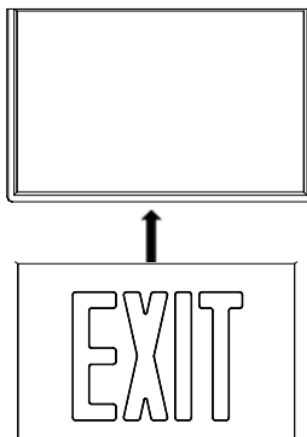
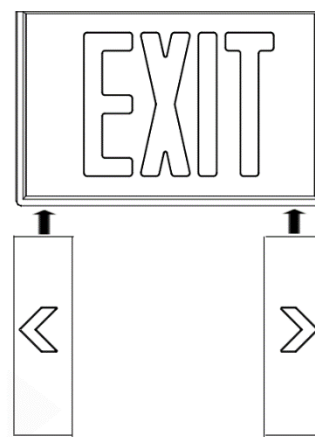
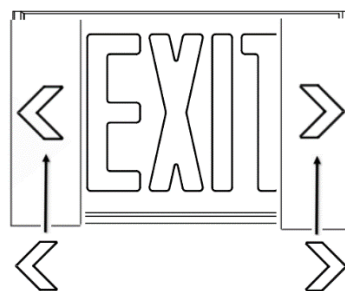

Fig 4
Fig 5
Fig 6
4. Insert correct PVC sheet into the panel (Fig 4). Place the sleeves onto the panel (Fig 5). Stick correct arrows on the panel (Fig 6), take off the sleeves.